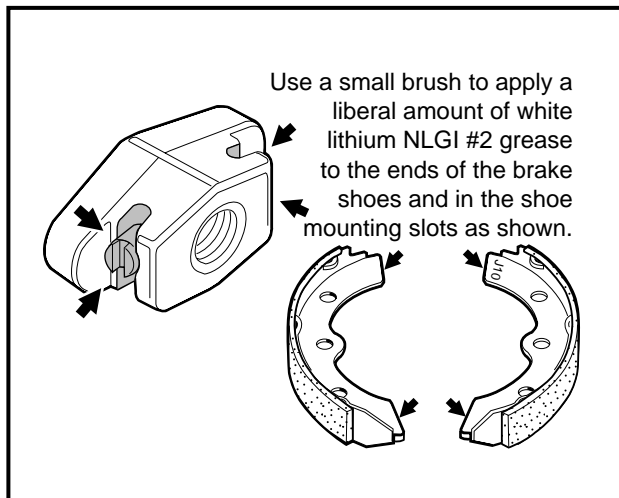

Figure 6-20 Grease Shoes
5. Use a small brush to carefully apply a liberal amount of white lithium NLGI #2 grease (Dow Corning BR2-Plus or equivalent) to each end of both brake shoes and into the slots in the brake shoe mounting block as shown (**Figure 6-20, Page 6-9**). See preceding **WARNING**.